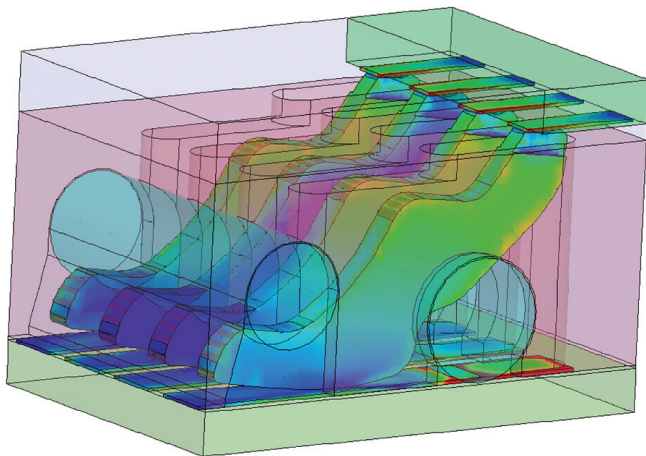

Figure 1. High-Frequency Structure Simulator 3-D E-Field Model of a Contactor/Load Board Interface
**Figure 1** shows the E-fields of a Johnstech 0.5-mm pitch Pad ROL™ 200 Contactor with the load board laid out to accommodate both the ROL 200 technology and soldering of the device to the board. As shown in the figure, the E-fields are very large on the load board trace beyond the contact/load board interface point, and the edges of the contact also have fairly high E-field radiation.